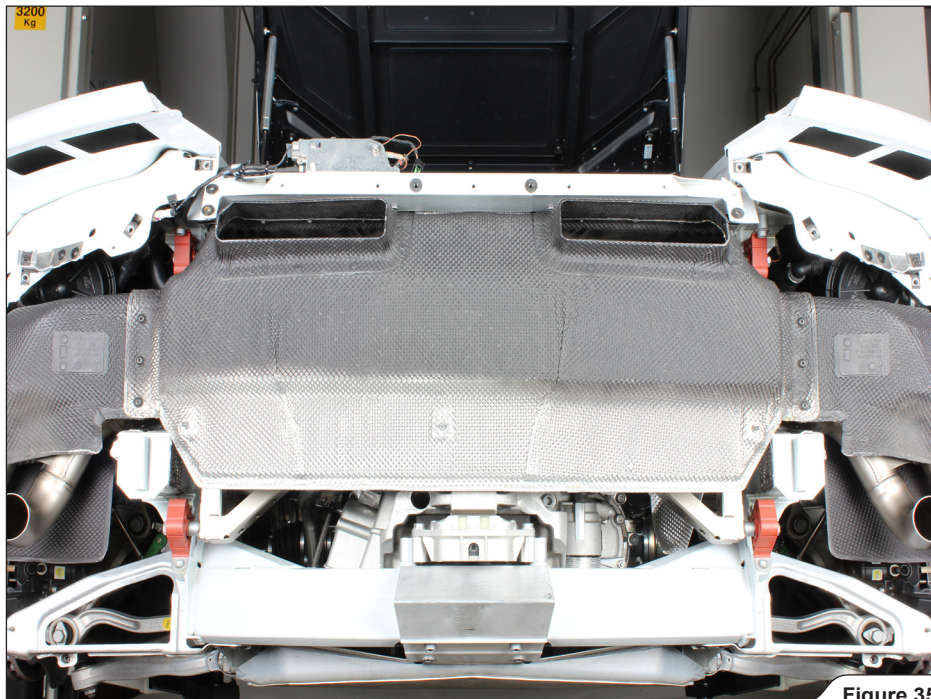

Figure 35
3. Carefully attach the assembled muffler onto the chassis, using stock bolts, washers and distance bushes; tighten the bolts on both sides to a specified torque (**Figure 35, 36**).